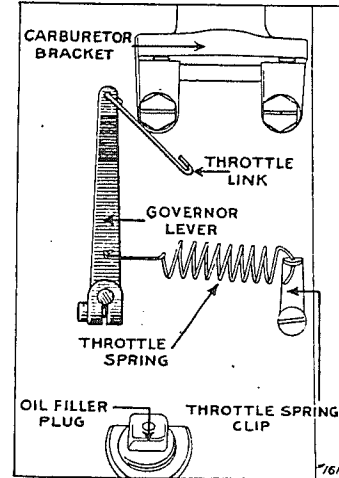

Fig. 9.
49. **Speed Adjustment.** Normal motor speed 1800 to 2200 R. P. M. To change motor speed, change tension of throttle spring by moving throttle spring clip. More tension on throttle spring increases speed, less tension reduces speed. (See Fig. 9).
50. **Governor Lever.** If governor lever has been loosened on it's shaft it is reset as follows:- (See Fig. 9.)
53. **Hook-up.** First make sure that the throttle link has one end hooked through the hole in the top of the governor lever from the outside toward the crankcase and the other end hooked into the hole in the bottom of arm on back of throttle shaft of carburetor (see Figure 9).